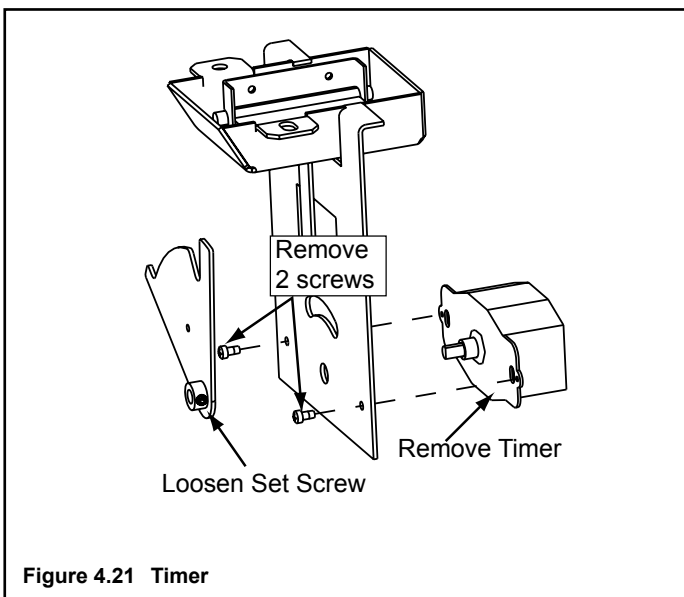

Figure 4.21 Timer
- Loosen set screw on timer, remove two screws and remove timer. See Figure 4.21.